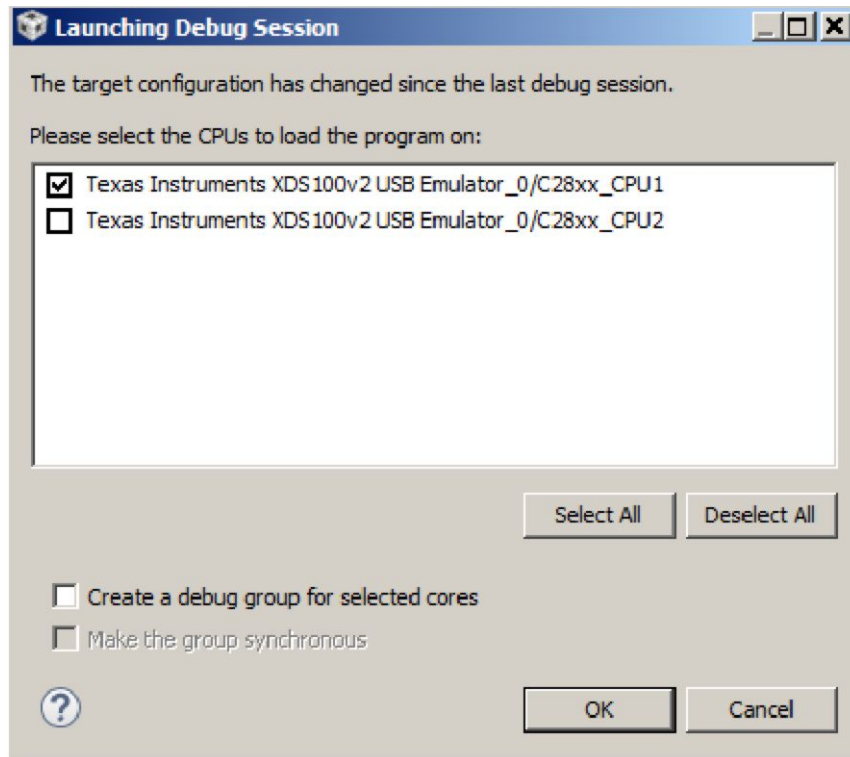

Figure 14. Selecting CPUs to Connect
4. Upon successful completion of the build, click the Debug button  , on the top-left side of the CCS window. If a window appears prompting to select a CPU, ensure CPU1 is selected, and click the OK button (see Figure 14).